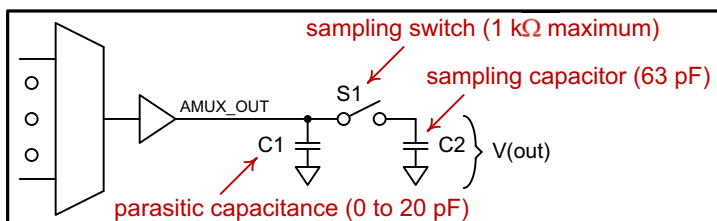

Figure 3-8 Analog multiplexer load condition for settling time specification
1. The AMUX output and a typical load is modeled in Figure 3-8. After S1 closes, the voltage across C2 settles within the specified settling time.